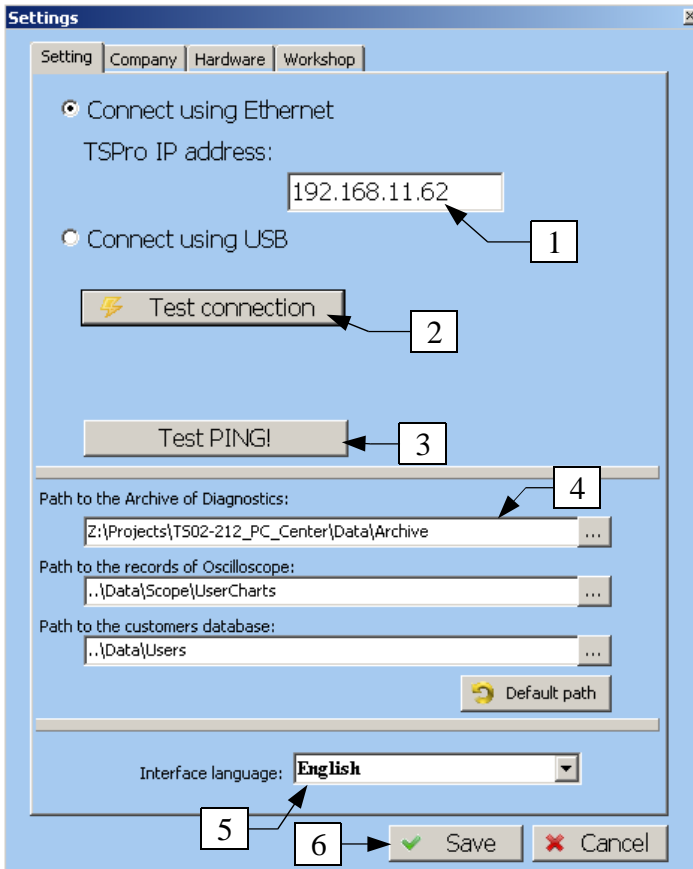
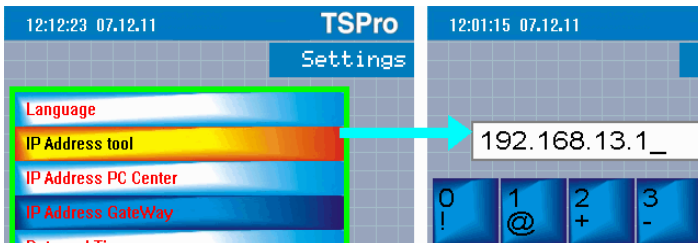

Figure 5.2
Figure 5.3
The MainBar is used not only for starting desired application, but also for overall setting. By clicking on the Settings (4) icon on a window (Figure 5.2), where all the important settings are done, appears. In the first tab you can set the device's IP address, perform a connection test, change the language and more. The second one allows you to change the user's initials; a short company info is printed in the heading of every protocol.
The most important item of the settings is the device's IP address (Figure 5.2). You must set the same address which is already set in the device in Settings - device's IP address (Figure 5.3).